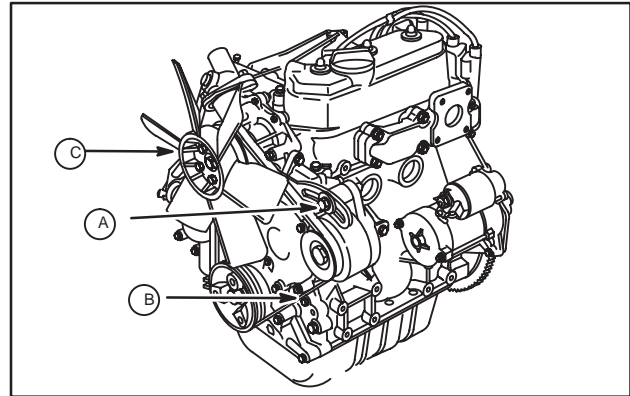

Fig. 1 – Remove V-belt And Fan
1. Remove the following parts from engine, Fig. 1: